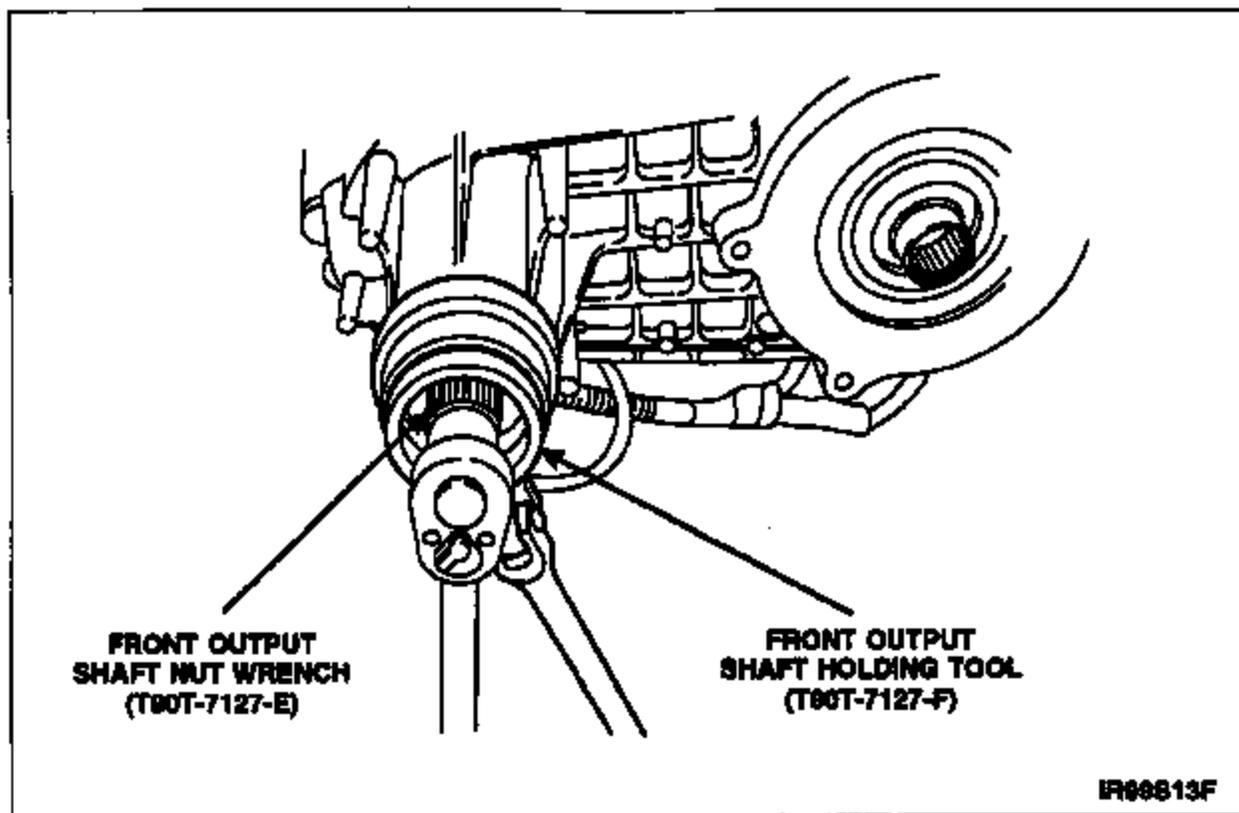

FIGURE 6
30. Using Front Output Shaft Nut Wrench T90T-7127-E and Front Output Shaft Holding Tool T90T-7127-F, loosen the front output shaft locknut. See figure 6. *Do not remove the locknut at this time.*